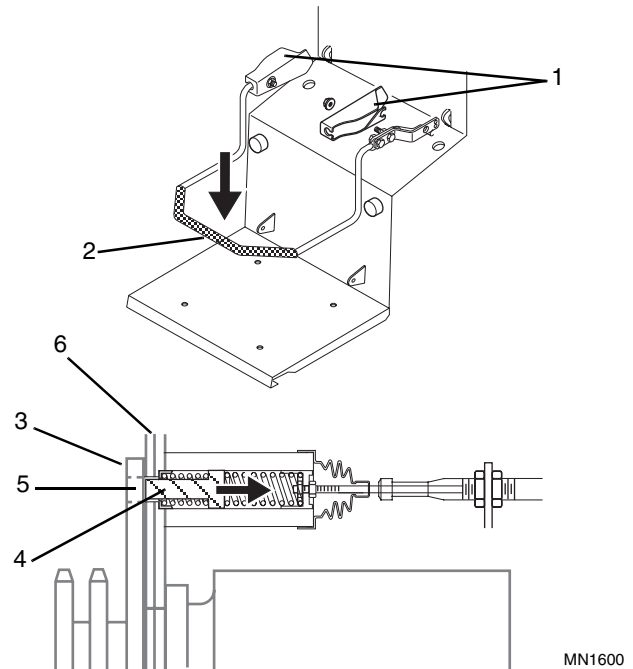
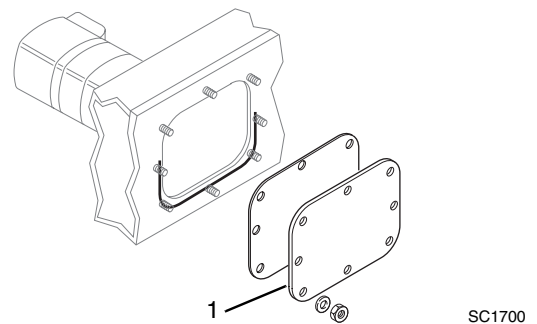

Figure 9-98 Park Lock - Disengaged
Figure 9-99 Access Cover Installation
6. Reconnect both park lock cables and check the adjustment of both park lock pins. With the seat restraint covers (Fig. 9-98, 1) still removed, lower the seat bar (2).
7. Remove both side chain case access covers (Fig. 9-99, 1) to gain access to the drive sprocket (Fig. 9-98, 3) and the end of the park lock pin (4).
8. Inspect to see that both pins (Fig. 9-98, 4) have fully retracted from the hole (5) in drive sprocket (3) and should be flush with the edge of the chaincase wall (6).